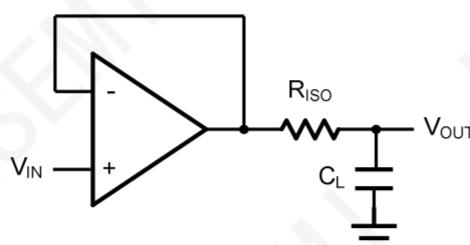
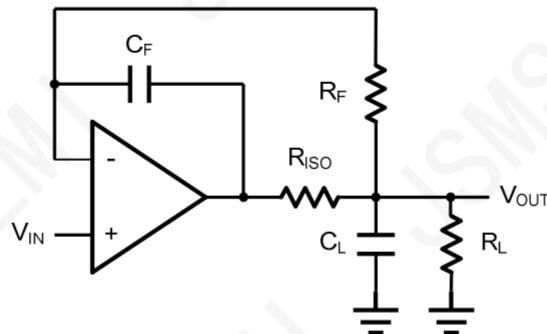

Figure 2. Indirectly Driving a Capacitive Load Using Isolation Resistor
Figure 3. Indirectly Driving a Capacitive Load with DC Accuracy
The JSM8632XS/TR family is optimized for bandwidth and speed, not for driving capacitive loads. Output capacitance will create a pole in the amplifier's feedback path, leading to excessive peaking and potential oscillation. If dealing with load capacitance is a requirement of the application, the two strategies to consider are (1) using a small resistor in series with the amplifier's output and the load capacitance and (2) reducing the bandwidth of the amplifier's feedback loop by increasing the overall noise gain. Figure 2. shows a unity gain follower using the series resistor strategy. The resistor isolates the output from the capacitance and, more importantly, creates a zero in the feedback path that compensates for the pole created by the output capacitance.
The circuit in Figure 3 is an improvement to the one in Figure 2.  $R_F$  provides the DC accuracy by feed-forward the  $V_{IN}$  to  $R_L$ .  $C_F$  and  $R_{ISO}$  serve to counteract the loss of phase margin by feeding the high frequency component of the output signal back to the amplifier's inverting input, thereby preserving the phase margin in the overall feedback loop. Capacitive drive can be increased by increasing the value of  $C_F$ . This in turn will slow down the pulse response.